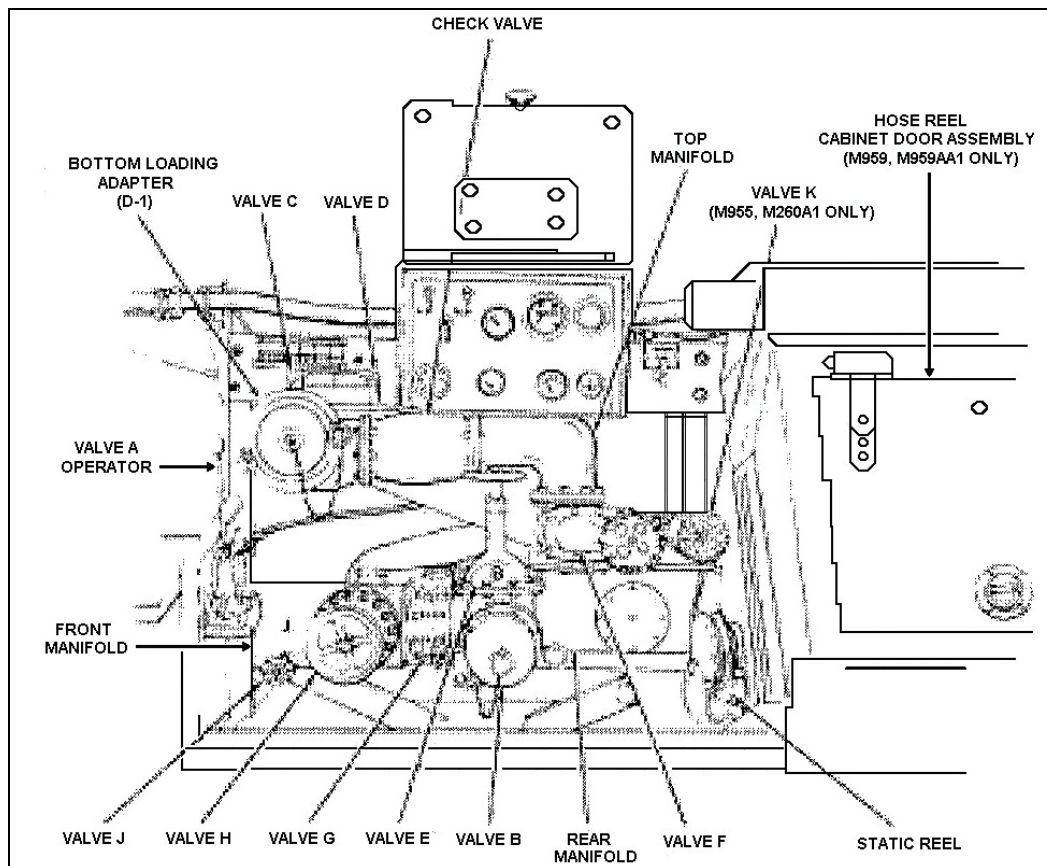

Figure 3-33. Engine and Pump Assembly
- (8) After the flow has begun, open the pre-check valve to pre-check the shutoff float. Flow should stop after about 20 to 25 seconds to indicate that the float is functional. If it is not working, stop all operations and notify higher maintenance.
- (9) Close the pre-check valve. The flow will resume in about 20 seconds. Be prepared to stop the fuel supply at the loading facility in event of shut-off float malfunction, if leaks are apparent, or other unusual condition are seen.
- (10) When tank is full, the flow should stop automatically. Close all valves, replace all covers, and disconnect the hoses.
- (11) Drain the accumulated water in the same manner as stated in 1a(8) above for top loading.
- (12) Remove the grounding wires.
- (13) Stow fire extinguishers.
- c. Self-loading using vehicle engine and pump (see Figure 3-33). Product is not filtered.
- (1) Ensure all valves are closed.
- (2) Ground and bond the vehicle.
- (3) Remove fire extinguishers and bring to point of operation.
- (4) Start the engine and pump (see item 1 as necessary).
- (5) Adjust idle speed on pump to 1,000 to 1,200 rpm.
- (6) Remove the 4-inch bulk fuel hose from the hose trough. Do this by disconnecting the spring pins and turning the hose trough bars out of the way.
- (7) Remove dust cap from the fuel outlets. Connect one end of the bulk fuel hose to the outlet and the other end to the storage facility.
- (8) Place the selector valve in the LOAD position.
- (9) Open the operator valve, fuel outlet valve, and the manifold outlet valve.
- (10) Shortly after the flow has started, open the pre-check valve to pre-check the shutoff float. After about 20 to 25 seconds, the flow should stop to let you know the float is working properly. If it is not working, stop all operations and notify higher maintenance.